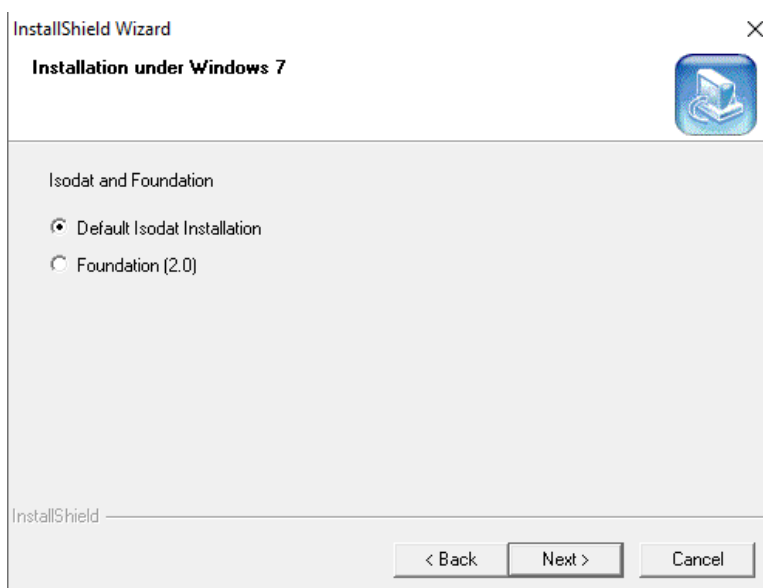

Figure 4-3. Isodat Service Pack - Default Isodat Installation
5. In the **Isodat and Foundation** dialog, select **Default Isodat Installation**. Click **Next**, see Figure 4-3.